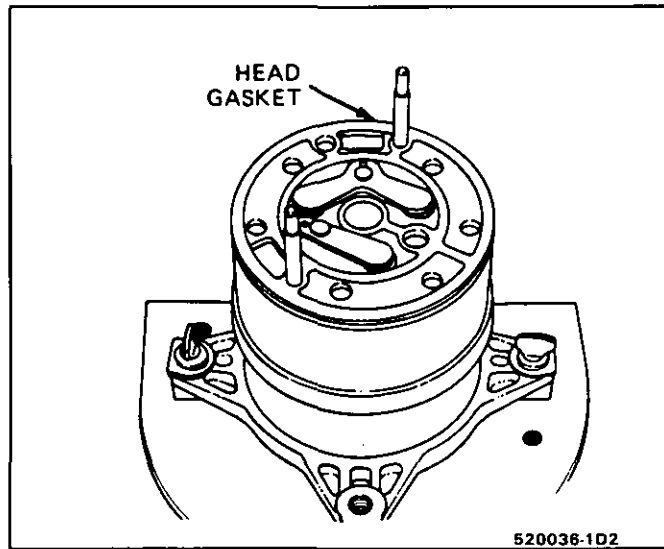

Fig. 35 Head Gasket Assembled Over Rear Valve Plate
5. Install head gasket over guide pins as shown (Fig. 35).